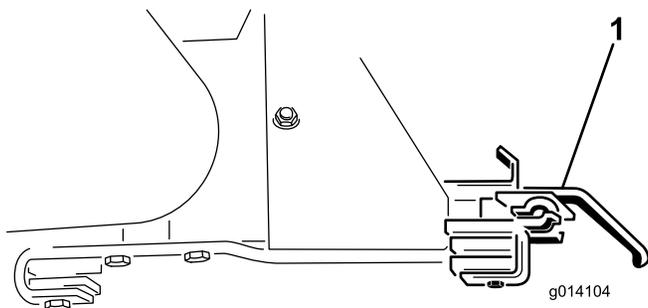

Figure 47
18. Remove the two option attachment brackets (Figure 47).